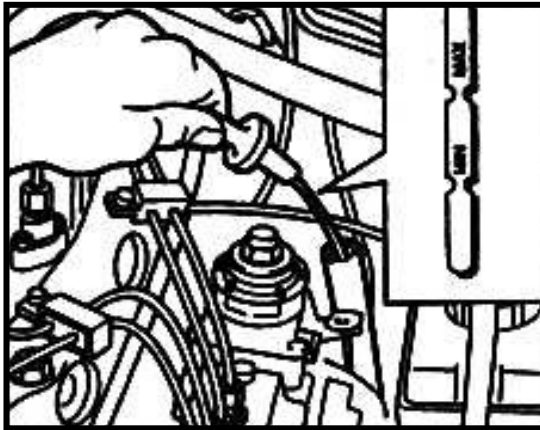

Fig. 6. Checking oil level
- c) Fill up the engine with proper engine oil (see 6.2). The oil level should reach the upper mark on oil dipstick (see Fig. 6).